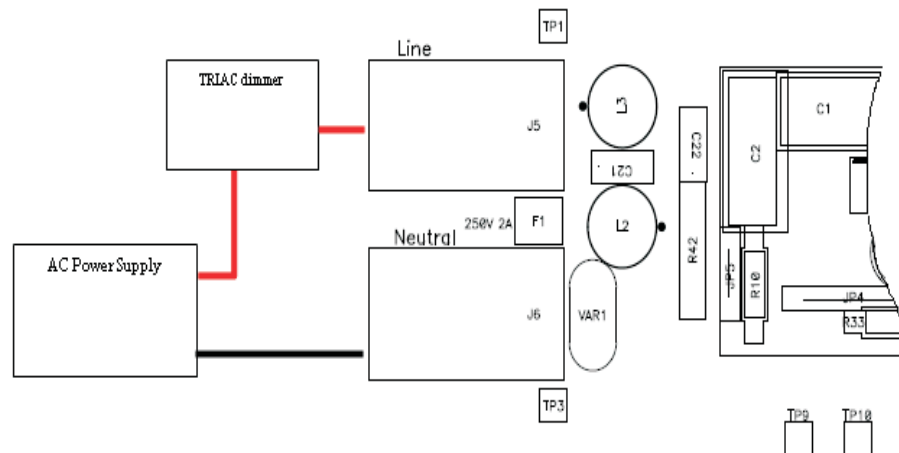

Figure 3. TRIAC Dimmer Test Setup
2. Add TRIAC dimmer to the input per Figure 3.